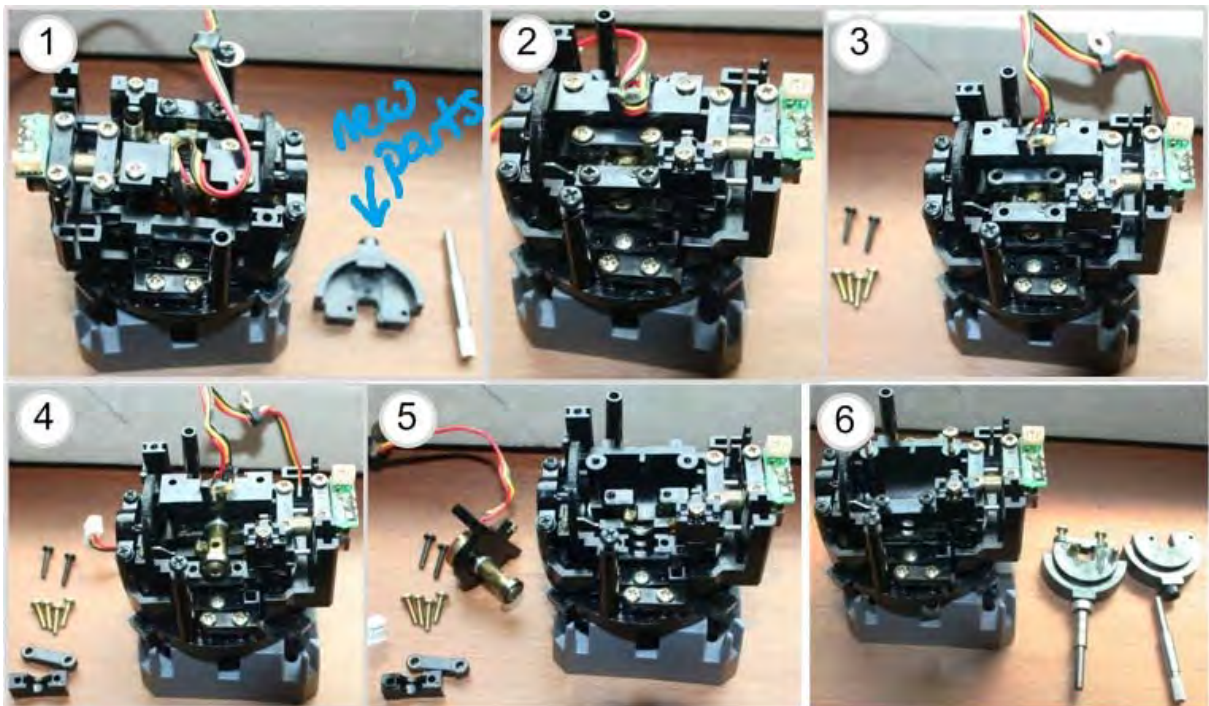
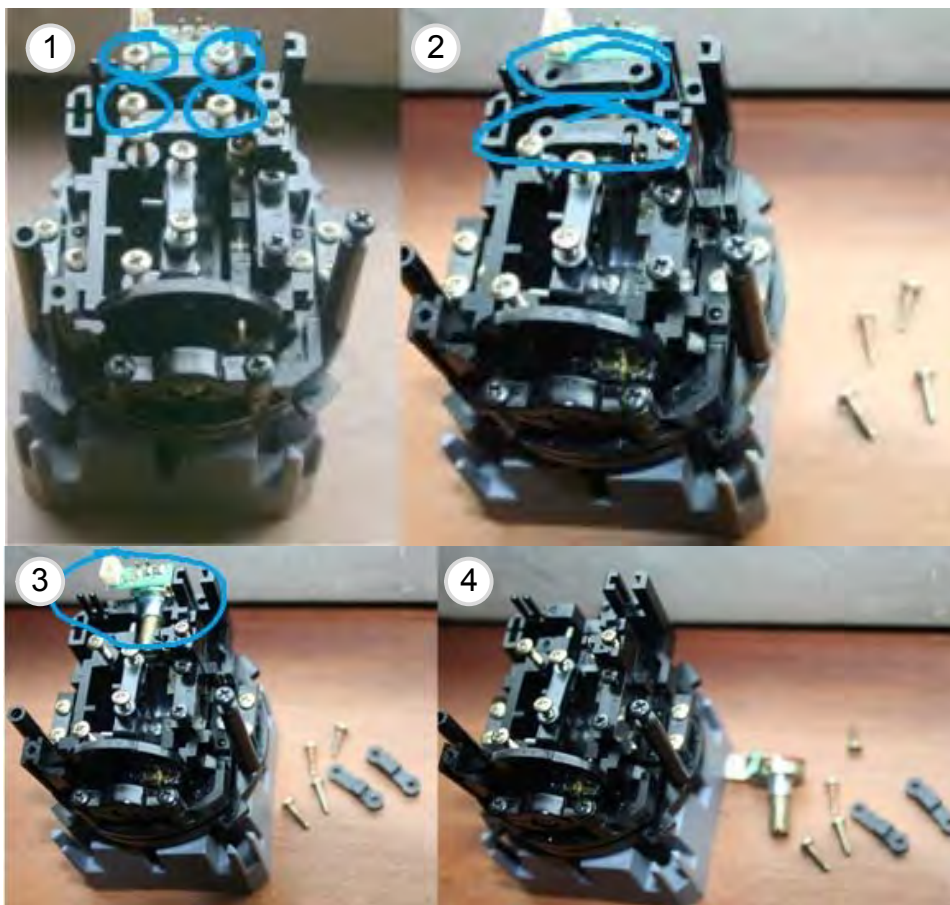

Figure 16 Disassemble the horizontal axis POT and joystick (new joystick parts in 1 & 6)
Figure 20 Remove the vertical axis POT retaining plates and withdraw the POT
2. Remove the retainers for horizontal axis and remove both the pot and the joystick (see Figure 16).
8. Unscrew the vertical axis POT retainers and pop out the POT (see Figure 20).
3. Loosen the POT retainer screws and then remove the retainers on the control that has slipped, these are highlighted with a blue ring in image (2) of Figure 20 and are shown removed as two black plastic components on the bench to the side of the assembly in image (4) of Figure 16. Refer to and read Section 3.5.2 if you need further details.